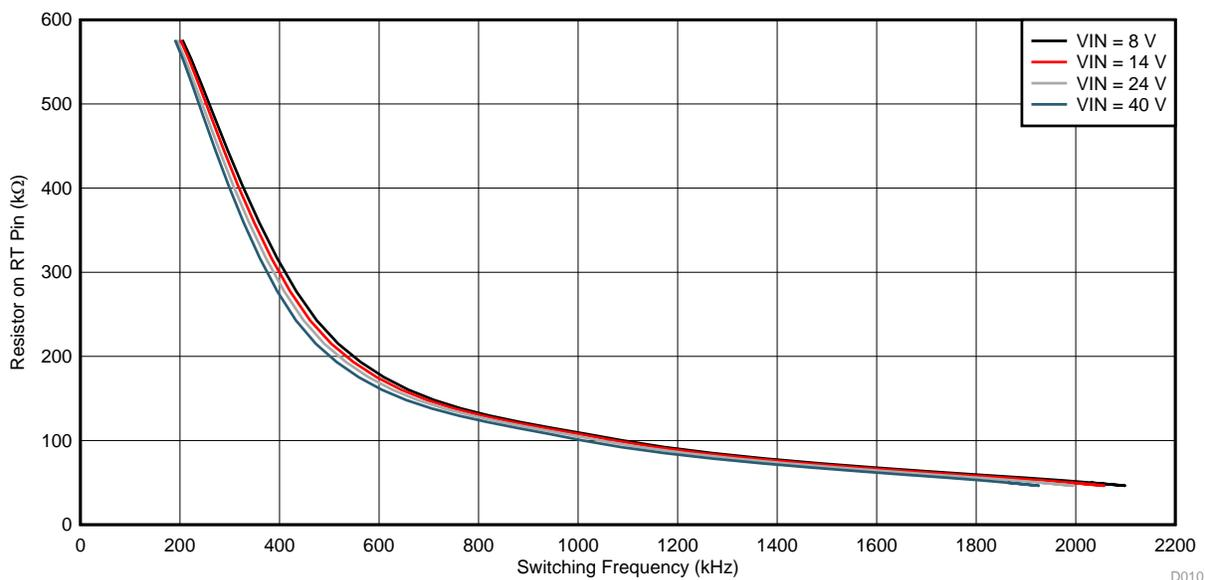

Figure 10. Switching Frequency vs Resistor Value
The oscillator frequency can be set by connecting an external resistor (R8 in Functional Block Diagram) to RT pin (pin 6). Figure 10 shows the relation between the resistor value (RT) and switching frequency (f_{sw}). The switching frequency can be set in the range 200 kHz to 2200 kHz. In addition, the switching frequency can be imposed externally by a clock signal (f_{ext}) at the SYNC pin.
Knowing the switching frequency, the value of resistor to be connected at RT pin can be calculated using the graph shown in Figure 10. Consider the oscillator tolerance ($\pm 10\%$) while selecting the external RT resistor. For example if $f_{\text{sw}} = 2.2 \text{ MHz}$ is required, select the R_{T} resistor which corresponds to $f_{\text{sw}} = 2 \text{ MHz}$ in Figure 10 to allow $+10\%$ oscillator tolerance.